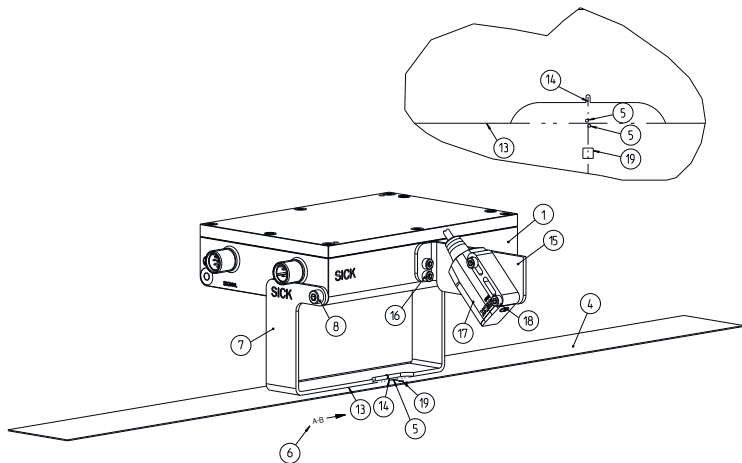

Figure 8: Mounting of a trigger sensor
6.8 Length measurement using a trigger sensor (Fig. 8)
- Mount the trigger sensor at a suitable location. Observe the mounting instructions of the external sensor as well as the description on length measurements using a trigger sensor Length measurement using a trigger sensor \(Fig. 8\) when doing so.